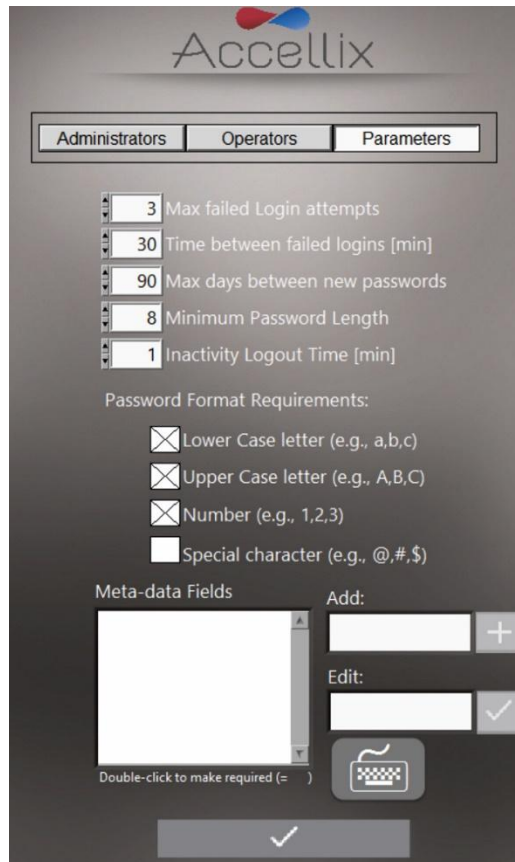

Figure 12: Login Parameter Options
1. Tap **Parameters** at the top of the **Personnel** screen. All changeable login parameters (Figure 12) are displayed: